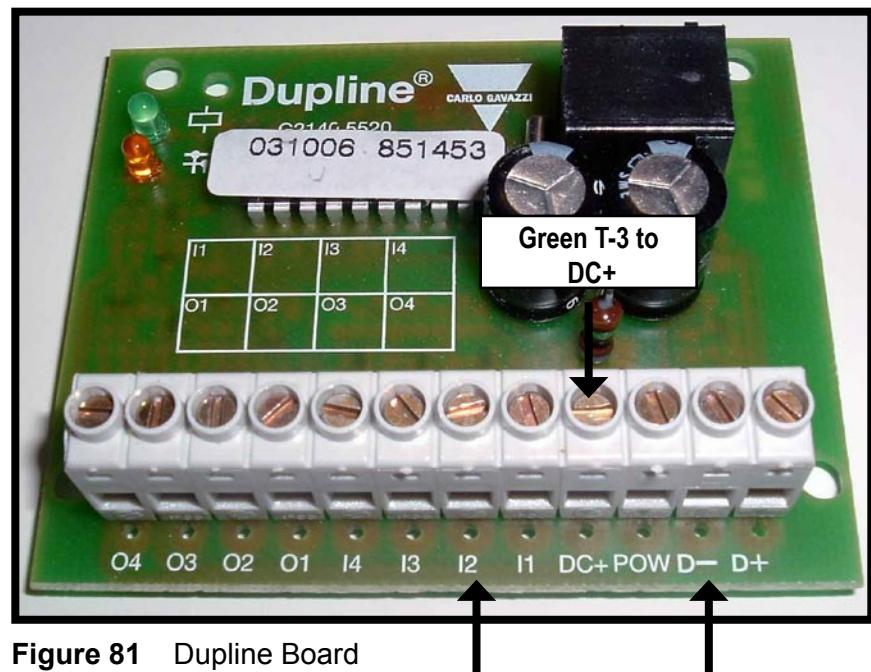

Figure 81 Dupline Board
- 8) Replace the terminal blocks on the 24V power supply and connect to the Dupline board as follows, refer to Figure 81.